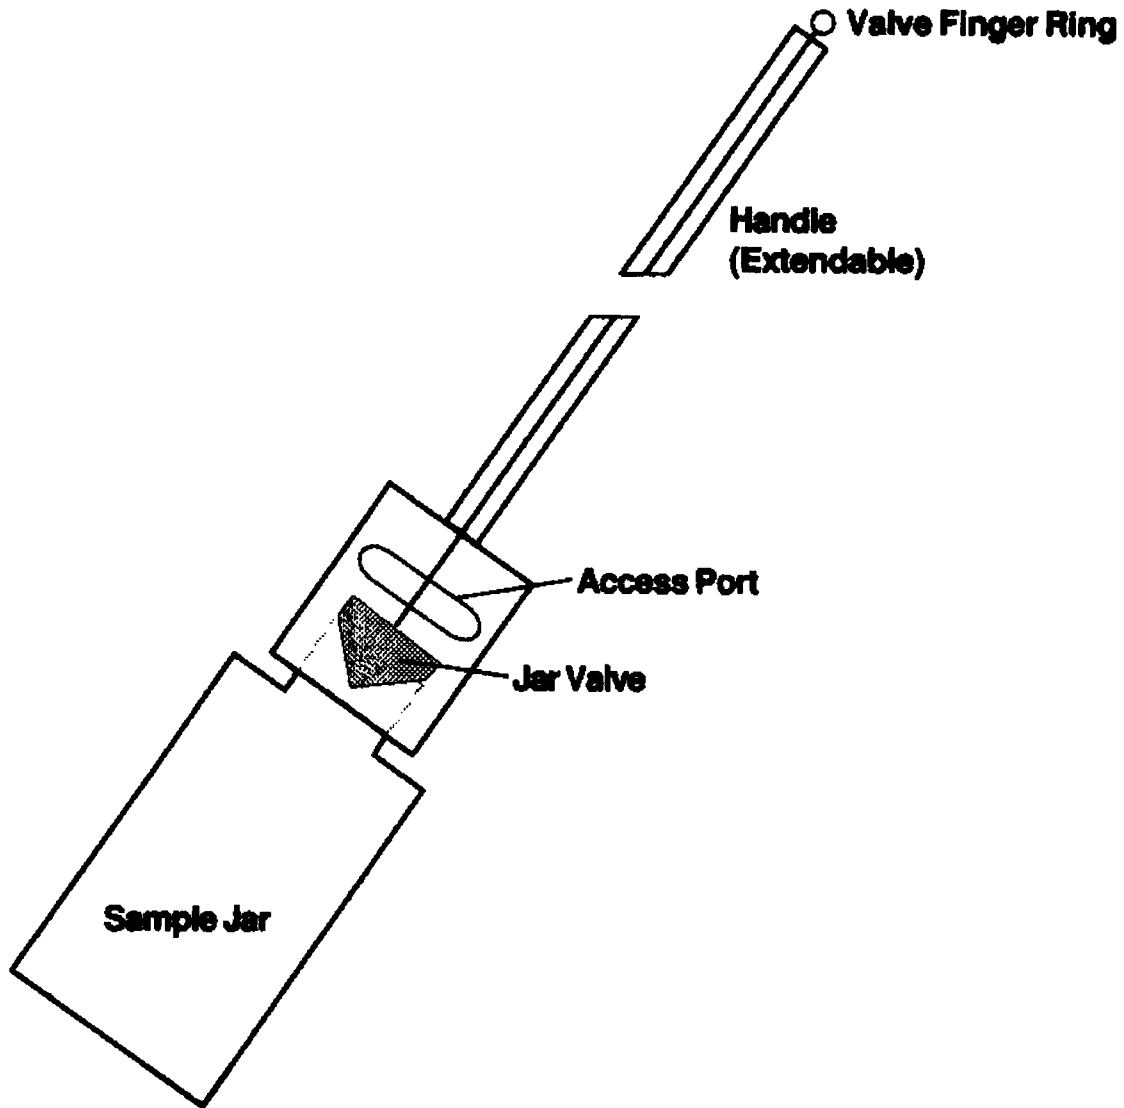

FIG. 2 Liquid Grab Sampler
6.2.1 *Description*—A liquid grab sampler consists of a rigid handle with a bottle attached to one end. The bottle is sealed with a plunger that can be opened or closed by moving the cable that is attached to it (see Fig. 2).